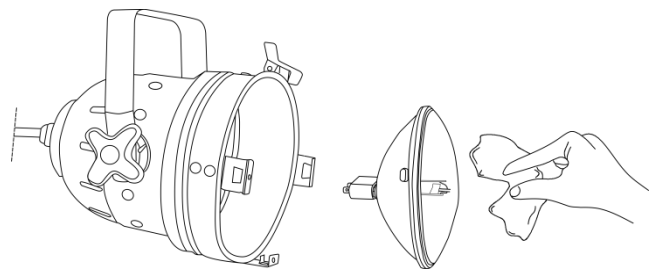

Fig. 04
- 03) Remove the lamp from the box and hold it **by the base**. Read lamp instructions. **Do not touch the lamp bulb glass**. Oil on hands shortens the lamp's lifespan. If you touch the bulb glass, wipe it off with a clean, lint free towel and rubbing alcohol (Fig.04).